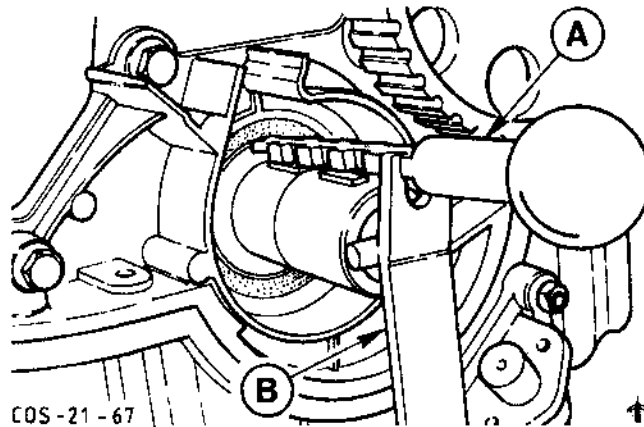

Fig.225. Remove crankshaft front oil seal using special tool 21-143
13. Remove the crankshaft front radial oil seal using special tool 21-143, Fig.225.